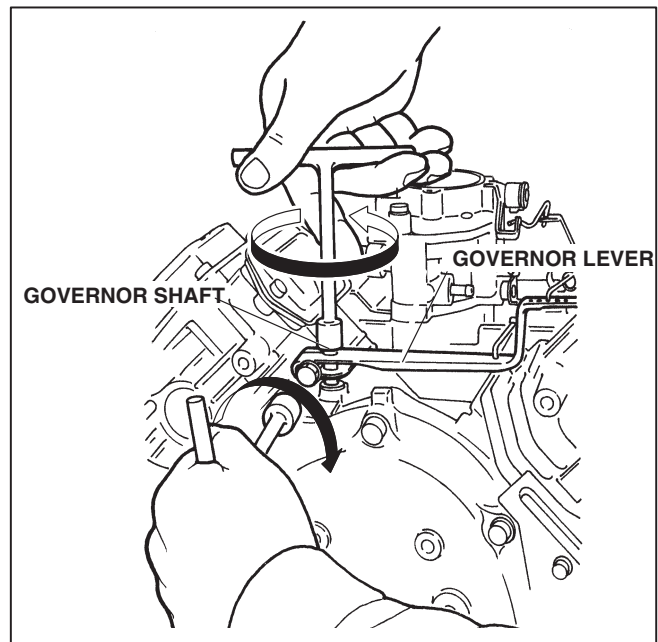

FIGURE 6-18.
3. Turn governor shaft counterclockwise all the way and tighten lock bolt to secure the lever on the shaft (Figure 6-18).